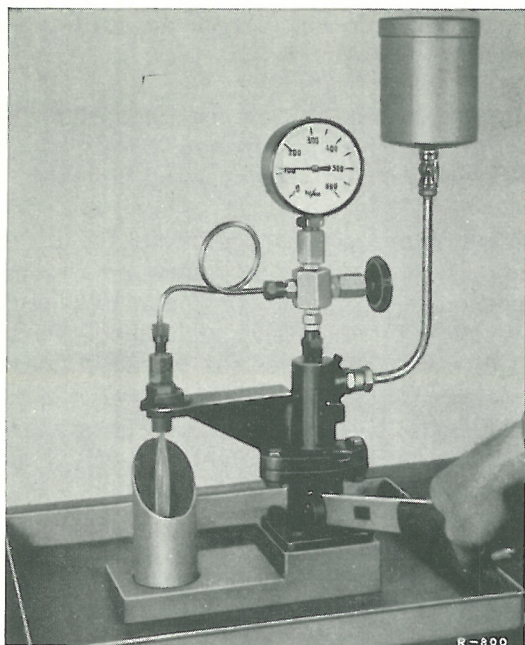

Fig. 07-44/3
**1** With the injection nozzle fitted in the nozzle holder connect up to the Bosch Nozzle Tester for Diesel Pumps, Order No. EFEP 60 F or EFEP 340 (Fig. 07-44/3).
Switch on the pressure gage, slowly depress the pump lever (1 stroke per second) and take the pressure at the moment of opening — i. e., at the beginning of injection; during this test the nozzle must be clearly heard to chatter (Fig. 07-44/3).